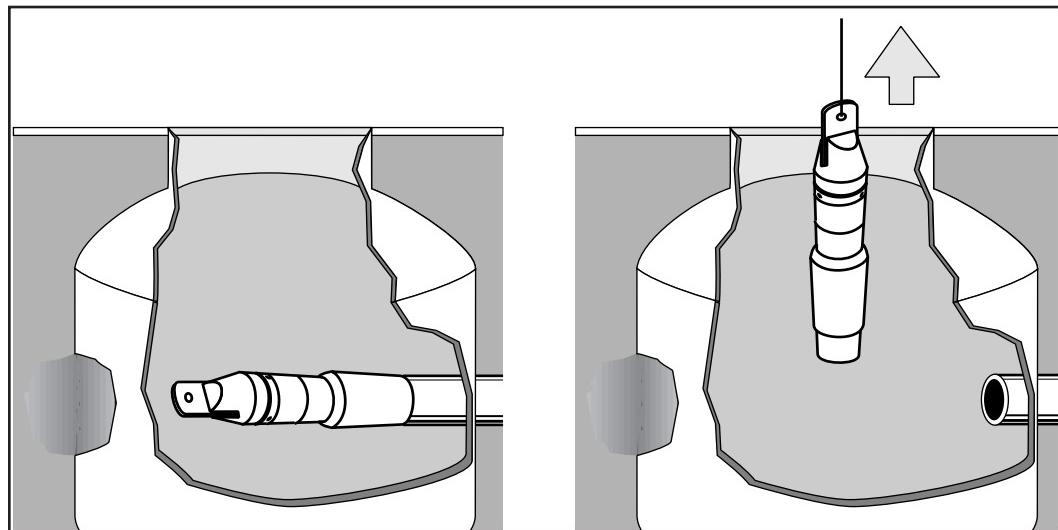

Figure 40. Overshoot Manhole Method
**3. Overshoot Manhole Method.** The winch boom is setup in the normal manner. As the tool enters the retrieval manhole, the tool is stopped and the winch boom is removed from the manhole. In some cases, the opposite wall of the manhole must have materials removed to provide enough space for the PE to enter the manhole (Figure 40).